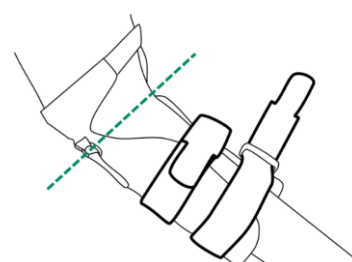

Figure 10
2. Align the two metal D-rings of the arm cuff with the elbow rotation axis (green dotted line) and close the Velcro (Fig. 10).